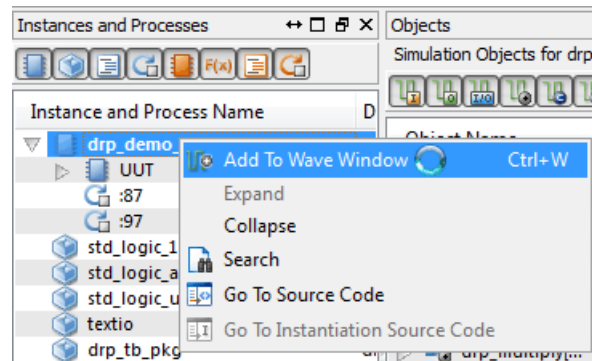

Figure 4-10: Add to Wave Window
2. Select **Add to Wave Window**. (Refer to Figure 4-10).